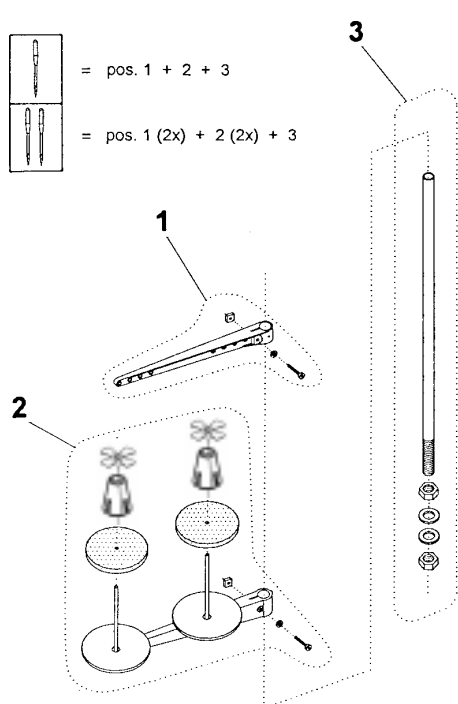

Fig. 15
10. Composition and assembly of the thread stand (Fig. 15, 16)